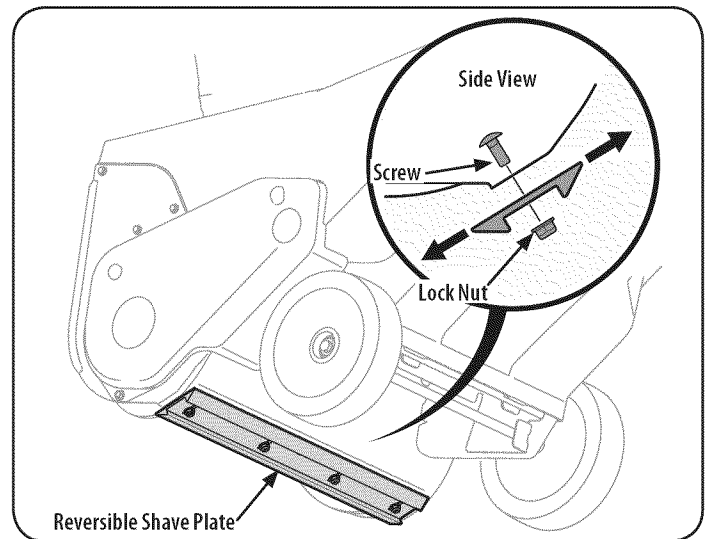

Figure 14
3. Loosen the four flange lock nuts and carriage screws which secure the shave plate to the housing. See Figure 14. Move the shave plate to the appropriate position and retighten the nuts and screws securely.
3. Remove the four carriage bolts and flange lock nuts which attach it to the snow thrower housing. Refer to Figure 14 on page 14.